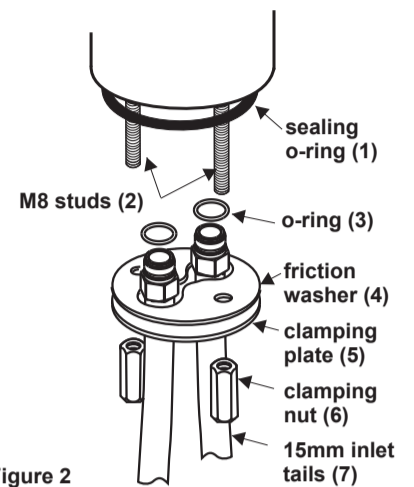

Figure 2
(Figure 2)
Place the fitting concentrically in the new tap hole and ensure the sealing o-ring (1) is seated correctly on top of the bath. The plate and washer (4 & 5) must be placed against the underneath surface of the bath tap deck. Tighten the clamping fixation nuts until the fitting is secure. (Figure 2)